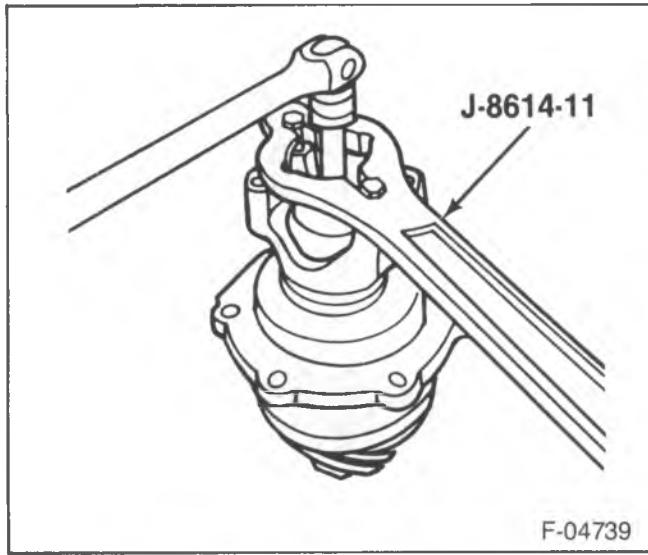
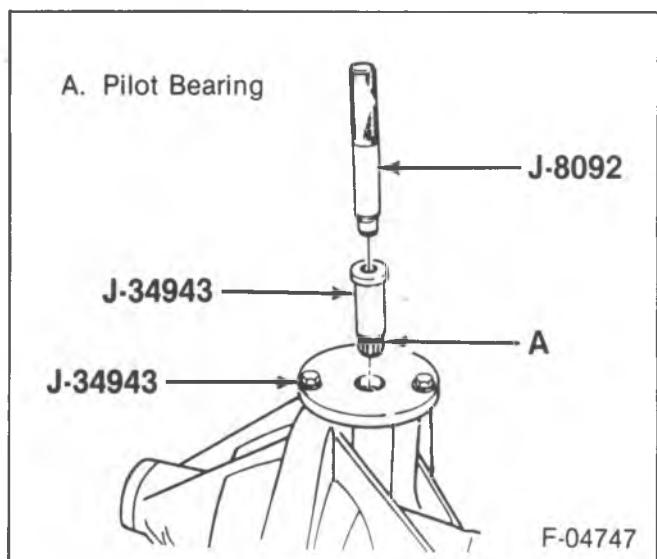

Figure 11—Installing the Pinion Nut
Figure 13—Installing the Pilot Bearing
1. Pinion pilot bearing (15) using J 34943 and J 8092 (figure 13).
- 7. Pinion oil seal (5) using J 24434 and J 8092.
- 8. Pinion flange oil deflector (4) and pinion flange (3) to the pinion splines.
- 9. Washer (2) and a new pinion nut (1).
- Tighten (Figure 11)**